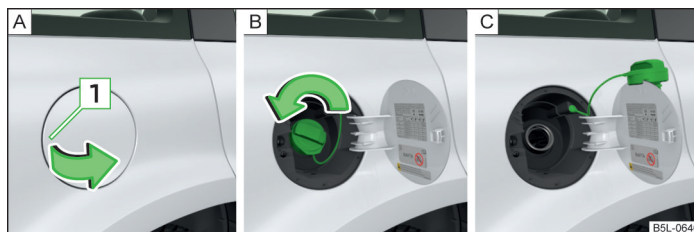

Fig. 155 Open tank lid / tank cap
The correct grades of fuel for your vehicle are stated on a sticker affixed to the inside of the fuel filler flap » Fig. 155 on page 196 - [B].
- Press on the flap in the range [1] » Fig. 155 - [A] and open the tank lid in the arrow direction.
- Unscrew the filler cap in the direction of the arrow » Fig. 155 - [B].
- Place the filler cap onto the top of the fuel filler flap » Fig. 155 - [C].
- Place the filler cap onto the fuel filler neck and turn it in the opposite direction to the arrow until it securely engages » Fig. 155 - [B].
- Hold the filler cap with your hand and unlock by turning the key in the direction of the arrow » Fig. 155 - [B].
- Screw in the filler cap in the opposite direction of the arrow » Fig. 155 - , until it audibly clicks into place.
- Hold the filler cap with one hand, lock it by turning in the opposite direction of the arrow » Fig. 155 -  and remove the key.